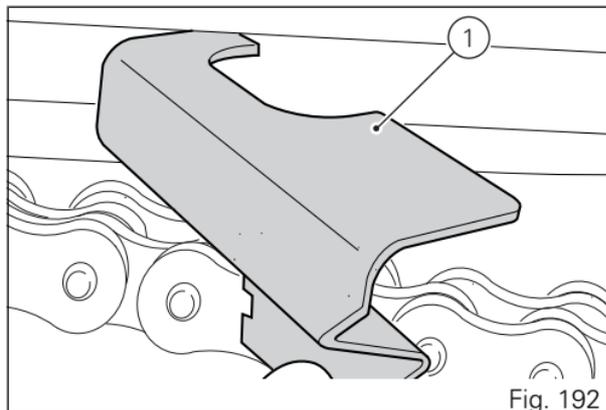

Fig. 192
The chain tensioning gauge (1) must be inserted between the swingarm and the lower chain slider in correspondence of the slider central fixing point (Fig. 192).